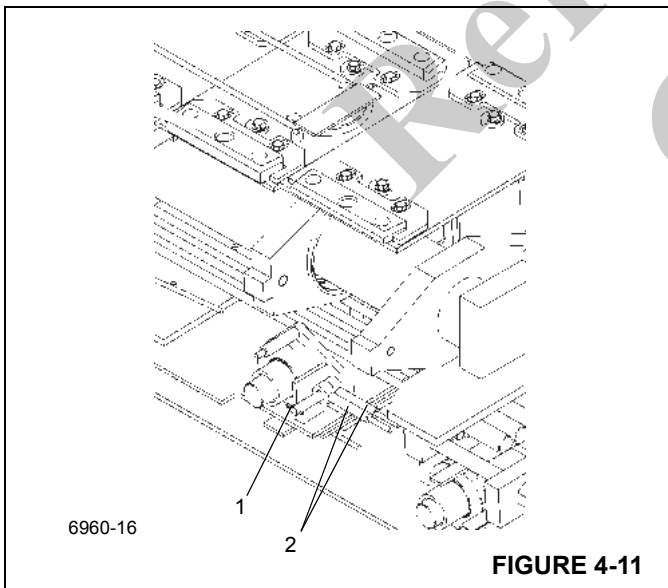

FIGURE 4-11
13. Remove the cotter pins and pins (1) securing the retract cables (2) to the rear of the outer mid (Figure 4-11).